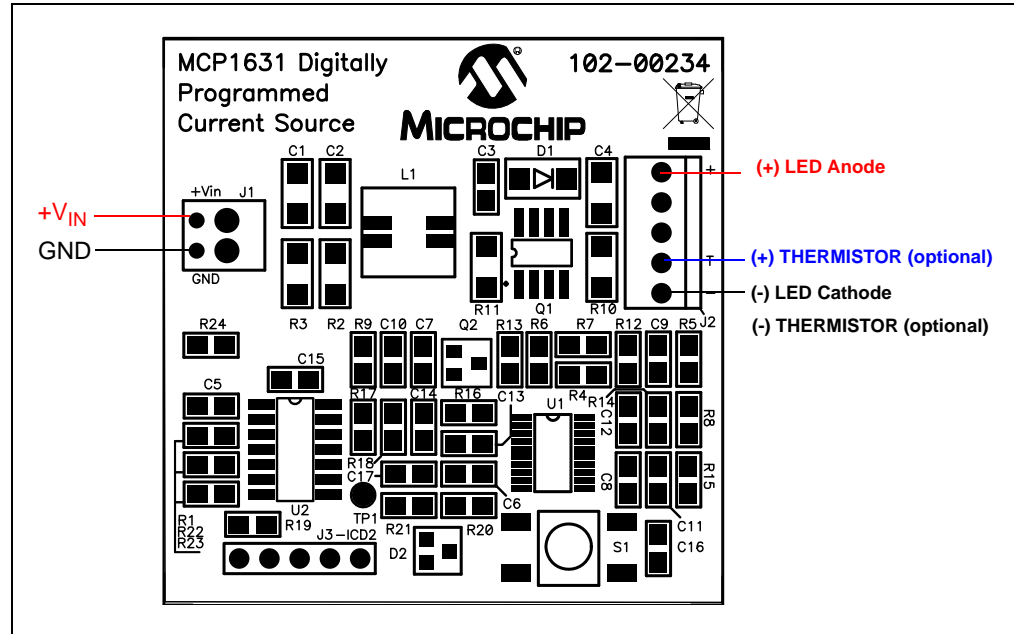

FIGURE 2-4: Power Supply and Load Connections Diagram.
2. Connect the positive side of the input source (+) to pin +V_{IN} of J1. Connect the negative or return side (-) of the input source to pin GND of J1. Refer to Figure 2-4.